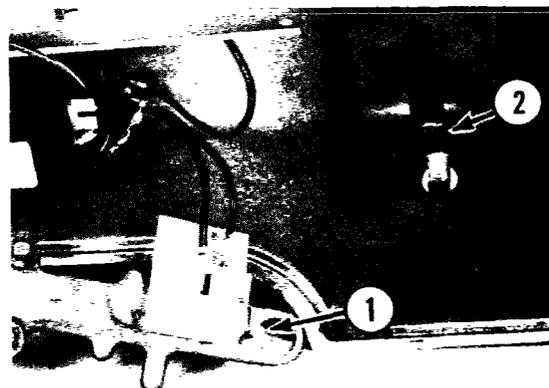

Fig. 3-14
- A. The switch should close when the arm (1, Fig. 3-14) is in the low of the shaft (2, Fig. 3-14). The switch will open when the arm is on the high of the shaft.